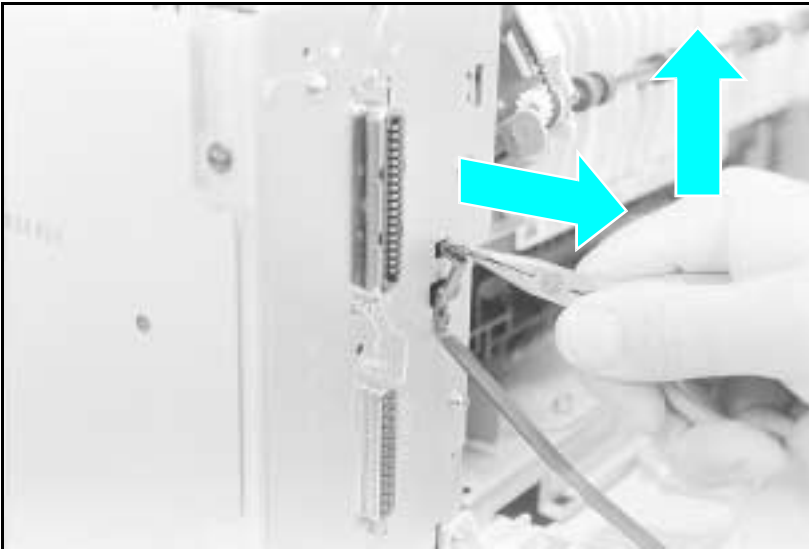

Figure 6-6 **Releasing the Door Support**
- 3** Release the door support from the rear of the printer frame as follows: (see Figure 6-6)